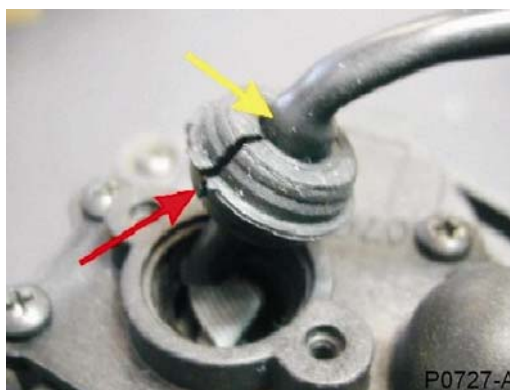

Figure 40: Split Grommet & Bulk Head Cover Opening
- If necessary, apply a light covering of silicone grease to the split grommet and fit it into the opening on the bulk head cover (Figure 40) and secure it into place with the ribbon cover and two screws.